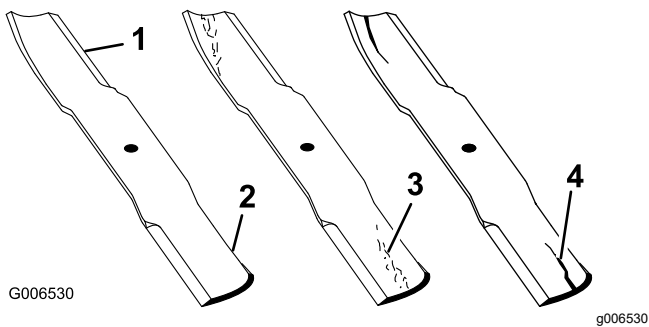

Figure 52
1. Inspect the cutting edges (Figure 52).
4. If you notice any cracks, wear, or a slot forming in this area, immediately install a new blade (Figure 52).